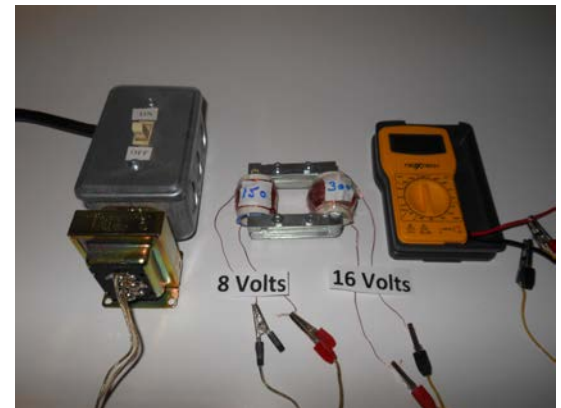

Fig. 13
11. Using small alligator clips, connect the 8 volt output of the bell transformer to the coil which has 150 turns, and connect a voltmeter to the coil with 300 turns, and turn the power on. See Fig. 13.